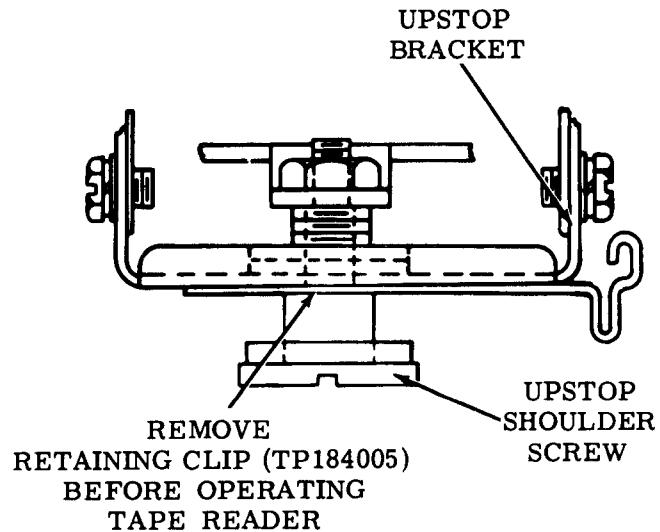

Figure 15 - Tape Reader Upstop Bracket Retaining Clip
Note: Before replacing an ASR cover, remove the retaining clip (early design units only) from the tape reader upstop screw (Figure 15). Also, prepare the punchon 3300 Series Coded Sets for manual or automatic operation as described in 6.01.
4.01 A retaining ring or clip (Figure 15) is assembled (on early design units) to the upstop screw to prevent the sensing pins from being dislodged during shipment. This retaining clip must be removed before placing the tape reader in operation.